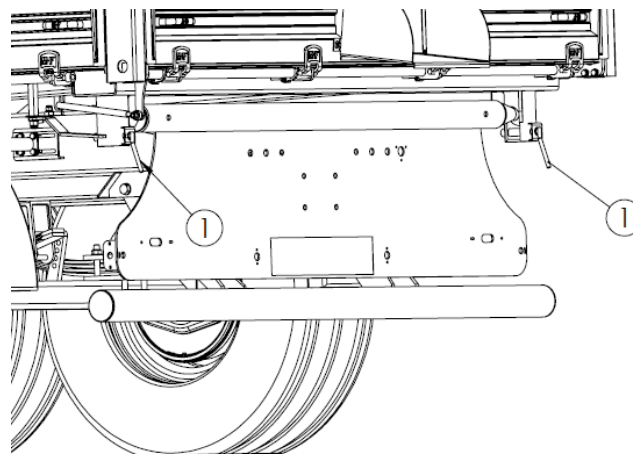

Figure 8. Tipping safety pins
- remove the pin connecting the load-carrying body to the chassis frame (Fig. 8)
- when unloading to the rear – the pins (fig.8) shall remain in the rear sockets of the body;